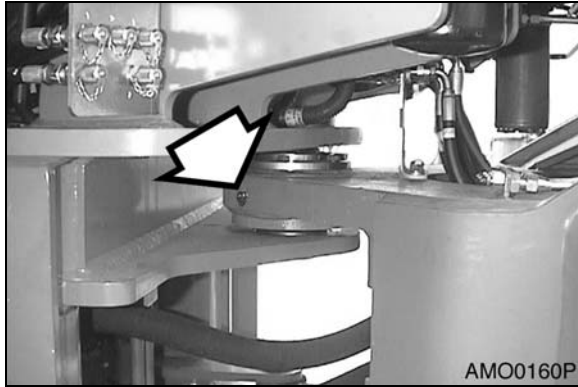
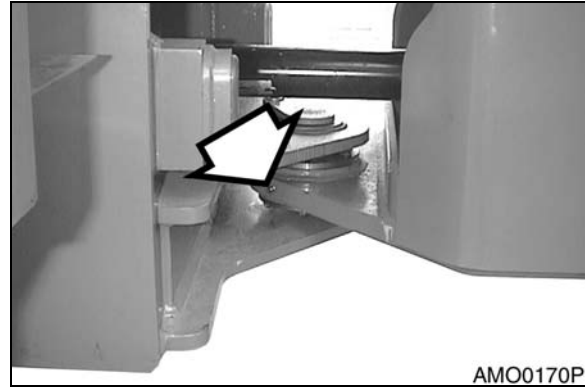

Figure 45
Figure 46
1. Center pins, Upper (Figure 45) and Lower (Figure 46). Two locations on each side of machine.